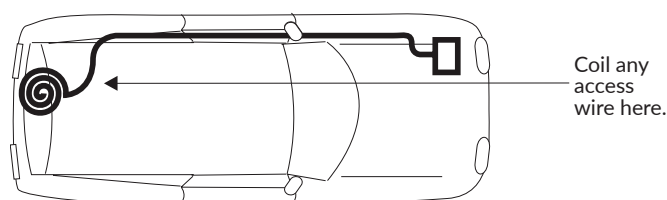

Figure 4-3
- If the harness is too long, coil the extra wire and secure it to the vehicle's front bumper using the wire ties provided. **See Figure 4-3. DO NOT** cut or shorten the harness.